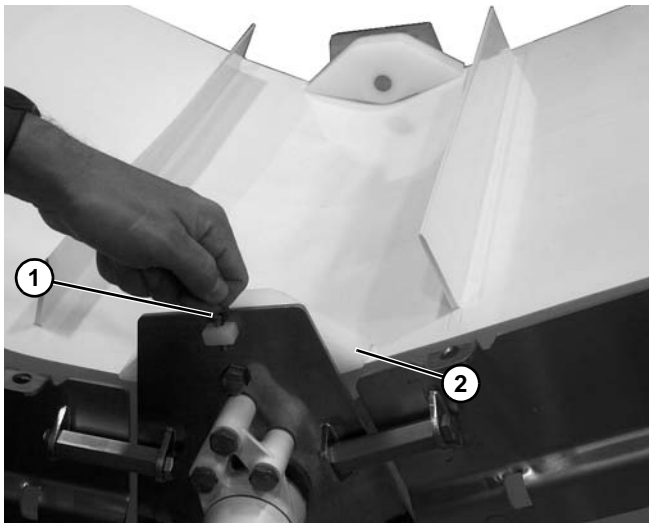

Figure 24
- Lower Knuckle (LPZ Conveyors) (If Equipped): Remove pull pin (**Figure 24, item 1**) and roller guard (**Figure 24, item 2**) on each side of conveyor on lower knuckle plate. Place roller guard in COP tank.